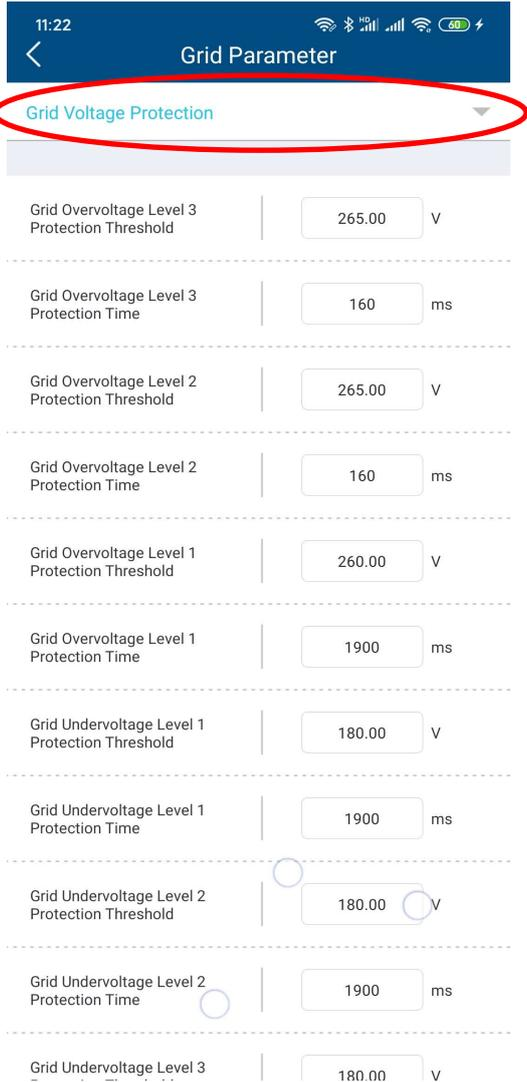

Figure 2-5-16 Grid voltage protection
- **Voltage protection setting:** The inverter can set three levels of voltage protection values and the time corresponding to each protection value. As shown in figure 2-5-16